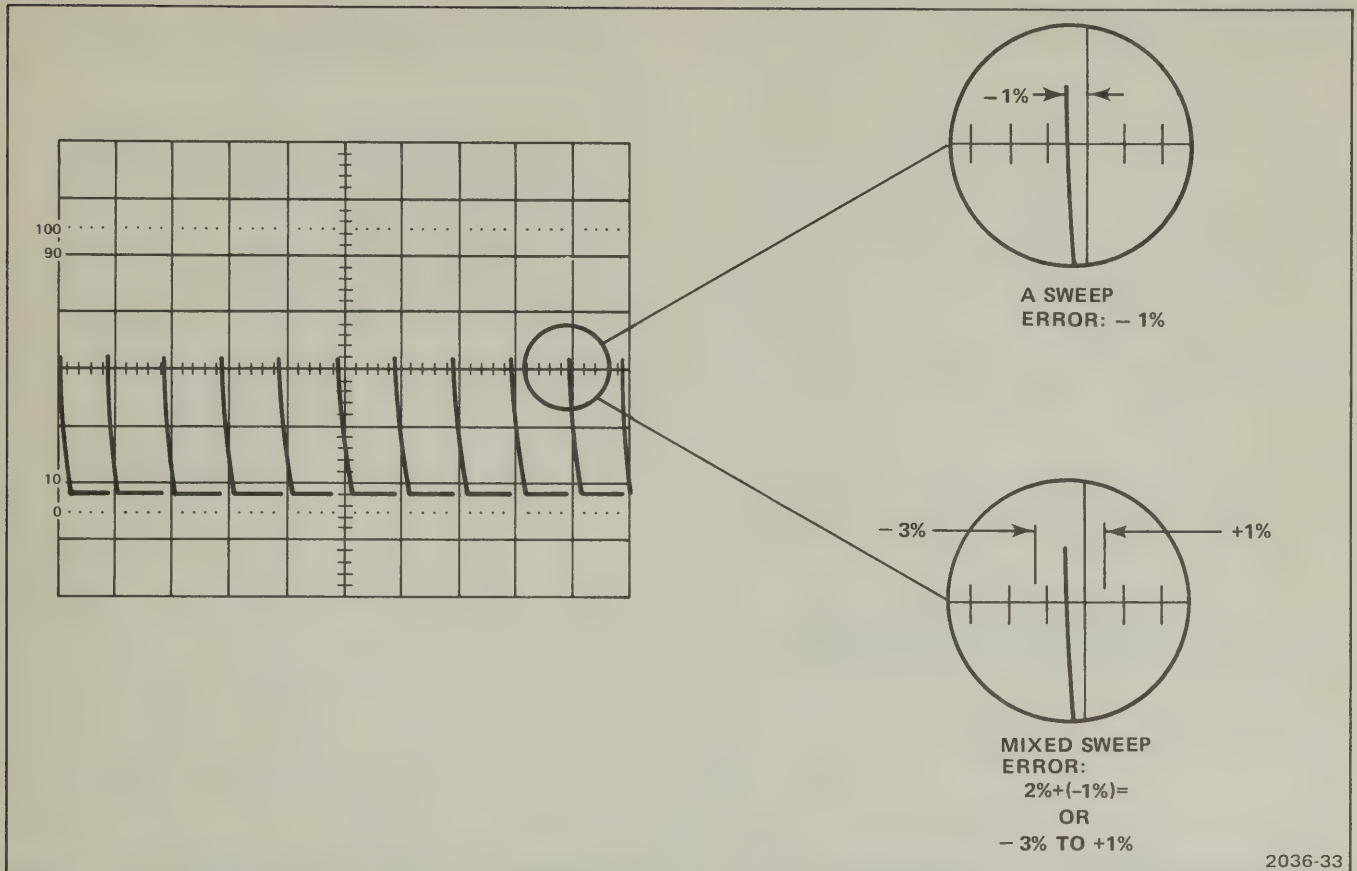

Fig. 3-4. Mixed sweep timing accuracy.
e. CHECK—Timing error between second and tenth time markers is within 0.18 division plus the error noted in part c (see Figure 3-4).